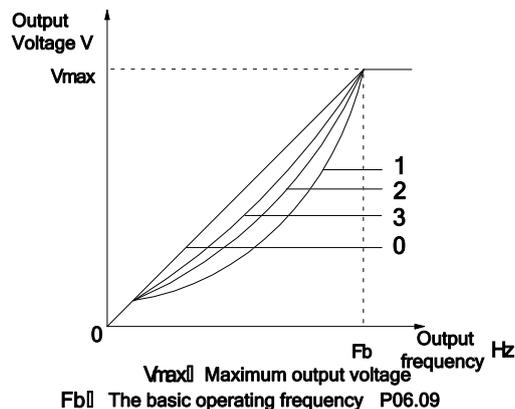

Figure 6-18: De-torque curve
- When P06.00 Option 1, is 2.0 times the power down torque characteristics; such as in Figure6-18 curve.
- When P06.00 select 2, 1.7 power down torque characteristics; such as in Figure6-18 curve 2.
- When P06.00 Option 3, is 1.2 times the power down torque characteristics; such as in Figure6-18 curve 3.
The factory default user-defined V / F is a straight line, curve, see Figure6-18 curve 0.
The basic operation is the minimum frequency when the servo drive output highest frequency voltage corresponding to the motor is generally rated frequency. As in Figure6-18 fb: